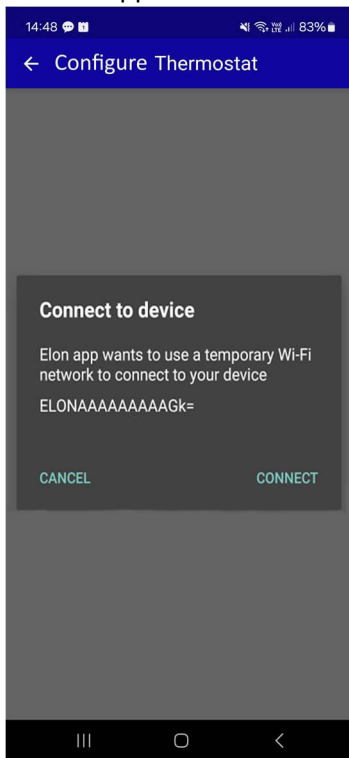

Figure 4.10 Network change
34. The application requests confirmation to switch to the Smart Thermostat’s hotspot (Figure 4.10).